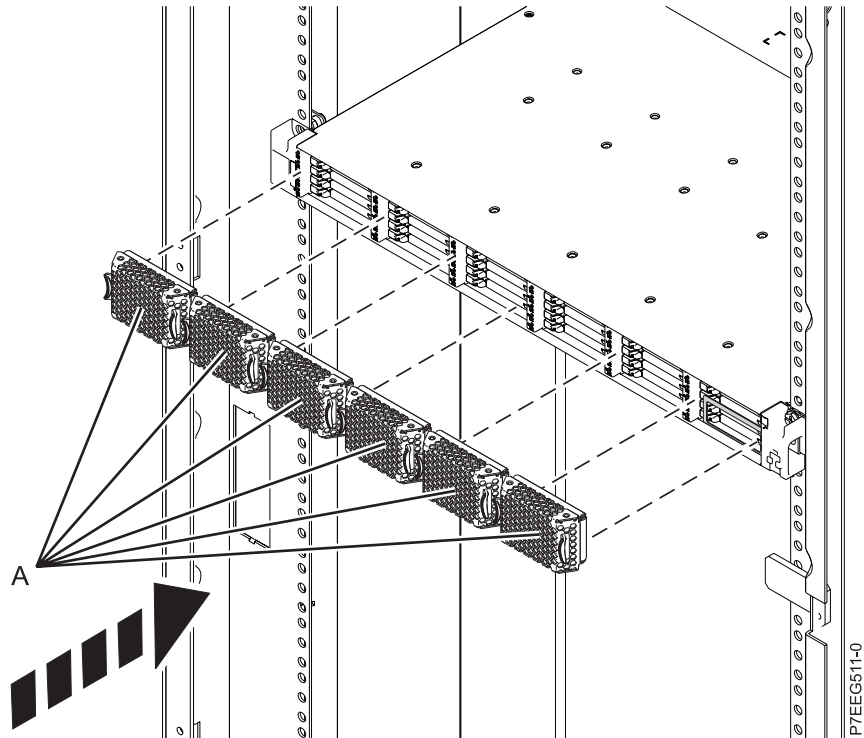

Figure 17. Installing the SSD EMC bezels
- g. Install the six SSD EMC bezels (A) to cover the slots that contain the SSDs, as shown in Figure 17 on page 15.